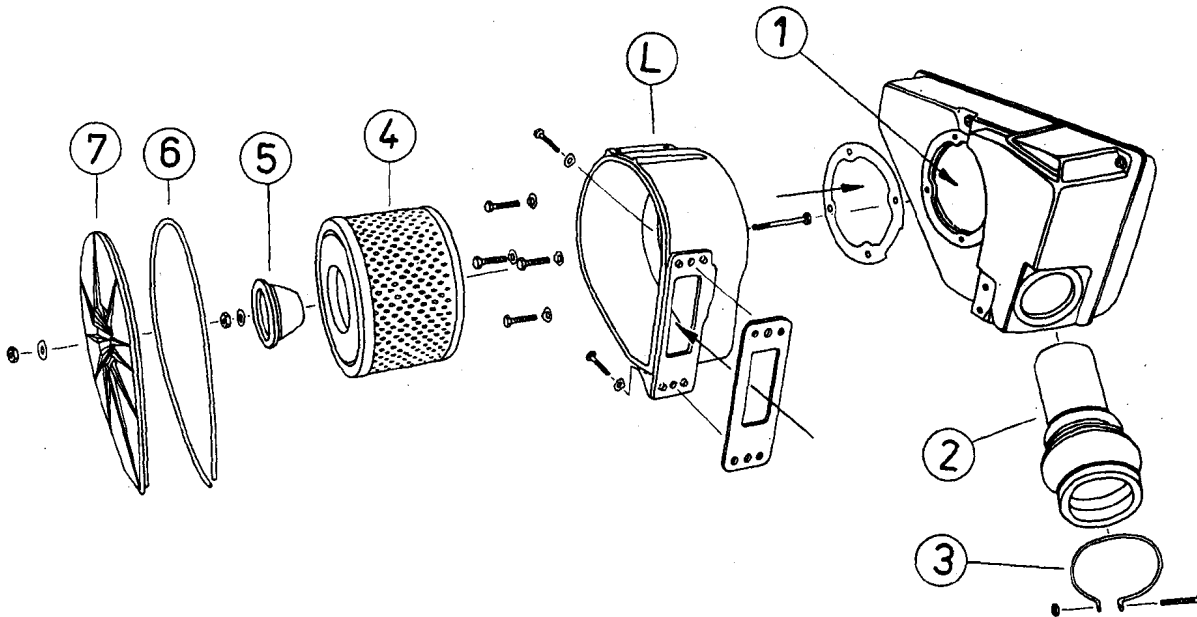

Fig. 187. Intake silencer and air filter
After leaving the induction pipe, the air flows back into the frame member and enters the air filter casing (L) tightly screwed to the frame tube, see Fig. 187.
For the ETZ, a dry air filter is used. The air filter (4) is arranged in the filter casing. It is centred with the one face in the casing and with the other face in a cup (5) which is guided on a threaded bolt and fastened on it (Fig. 187). In order that the filter is properly sealed at its two faces, the cup (5) and the cover (7) must be screwed in such a way that the air filter is properly fixed and the packing (6) can fulfil its function. The filter will be accessible after the removal of the battery. The dust is deposited on the exterior surface of the filter. This must be taken into consideration when cleaning it. The dry air filter is cleaned by slightly tapping it or by brushing by means of a dry and clean hair brush..